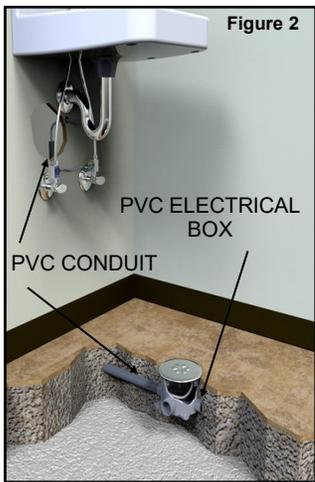

Figure 2
**For new concrete floor installations,** the in-floor activator is design to fit into a standard round PVC "concrete pour type" in-floor electrical box. These type of electrical boxes are available from manufacturers such as Hubbel, LEW, Carlon and Kraloy to name a few. PVC conduit is run from the in-floor electrical box and out of the wall just underneath the sink and above the water supply shutoff valves (see **Figure 2** next page). After the PVC box is cut as per the manufacturers instructions and the flooring placed, the Tapmaster activator disk is ready to be installed.
**STEP #1** Route the control tube bundle through the rubber gasket supplied and route the control tube bundle through the floor/wall to the water line shutoff(s). (see **Figure 2 & 3** for PVC box install and **figure 4, 5 & 6** for retrofit install)
Tapmaster valve blocks are connected in-line between the hot and cold shut off valves and the faucet tubes as shown in **Figure 2**. (*Note: The valve blocks are identical in function and may be used on either hot or cold water lines. Position them according to how the control tubing will be routed*).